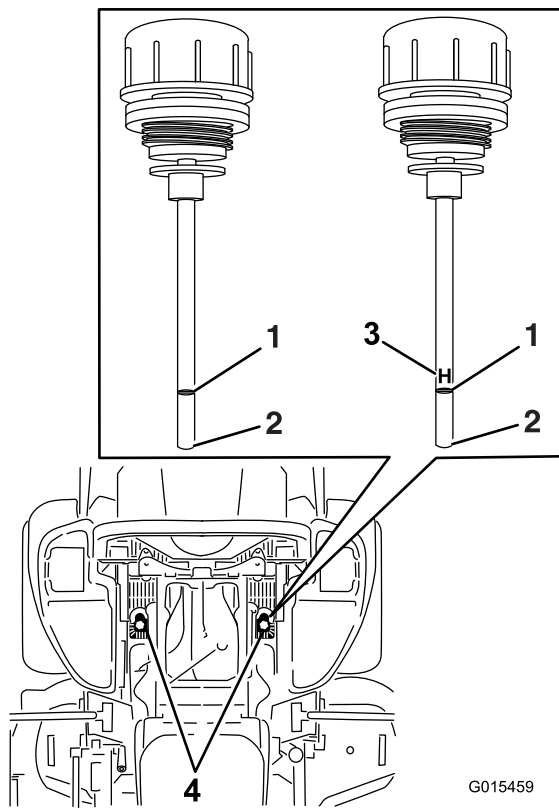

Figure 88
6. Clean the area around the dipsticks of the hydraulic system reservoirs (Figure 88).
7. Remove one dipstick from the hydraulic reservoir (Figure 88).
9. Remove the dipstick and look at the end (Figure 88).